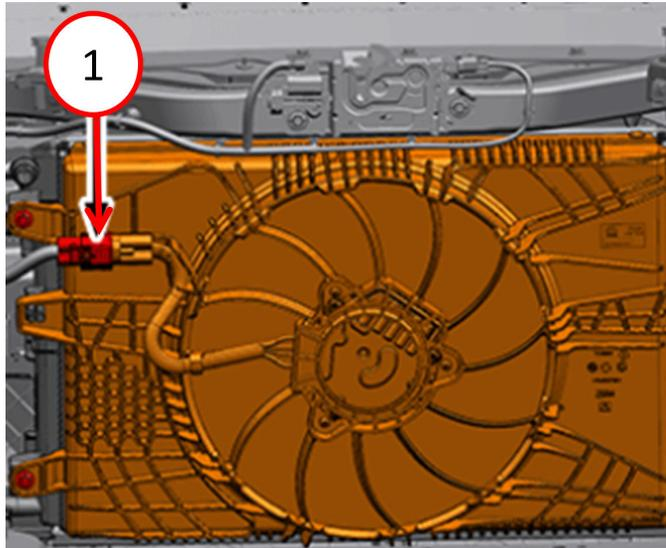

Fig. 1
4. Disconnect the cooling fan wire harness connector Fig 1**.
21. **Connect the cooling fan wire harness connector Fig 1.